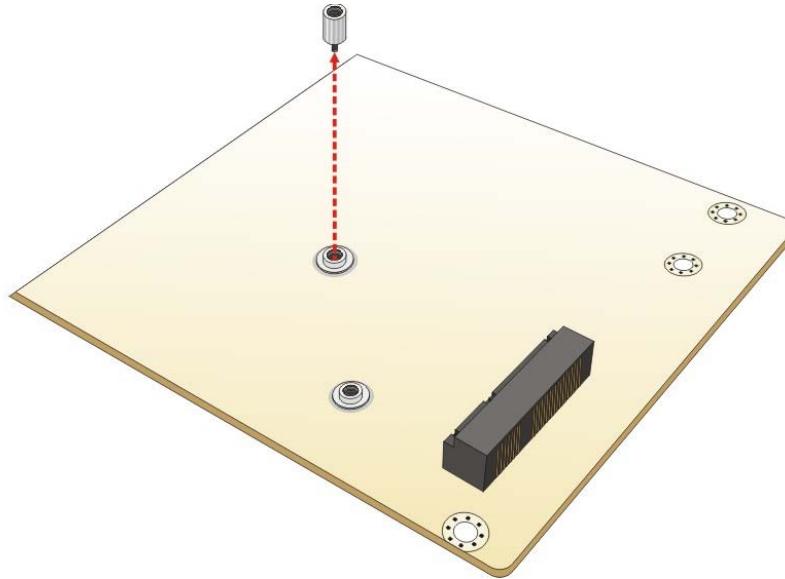

Figure 4-8: Removing the Standoff
- Step 3:** Remove the standoff. Unscrew and remove the standoff secured on the motherboard as shown in Figure 4-8.